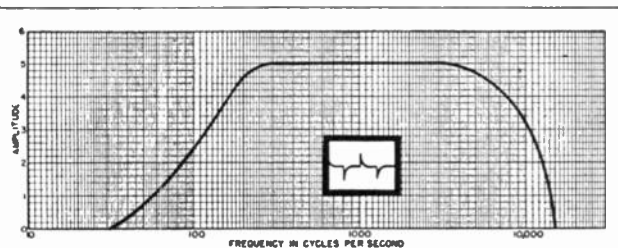

Fig. 3. Response curve and pattern indicating poor low-frequency characteristics.
**C1, C2**—See values in Fig. 3
The usual "cut and try" methods, however, may be used for rough setting of the capacitor values necessary to produce equalized curves similar to those shown in Fig. 3. As a matter of note, current feedback of the type existing in the input stage normally contributes only a reduction in the gain of the stage and a reduction of distortion. The frequency response is unaffected since only the output cur-
**Fig. 3—Equalizing constants for circuit of Fig. 1, curves A and C with cathode condenser, and curves D and F with series loop condenser, 34 db feedback, resistive load**
In Fig. 2A, we have the equivalent circuit for a resistance-coupled amplifier at the low frequencies. As is well known, low output is usually attributed to the relatively large voltage drop across the coupling condenser  $C_c$ . A typical response curve of an amplifier with such poor low frequency response is given in Fig. 3. If the square wave, depicted in Fig. 1, is now sent through this amplifier with a repetition frequency of 60 cycles, the oscilloscope picture will appear as in Fig. 3. This distorted square-wave pattern shows two things very clearly: phase and frequency distortion. Frequency distortion is indicated by the fact that the wave is not flat-topped and phase or delay distortion is brought out by the sloping of the square wave.